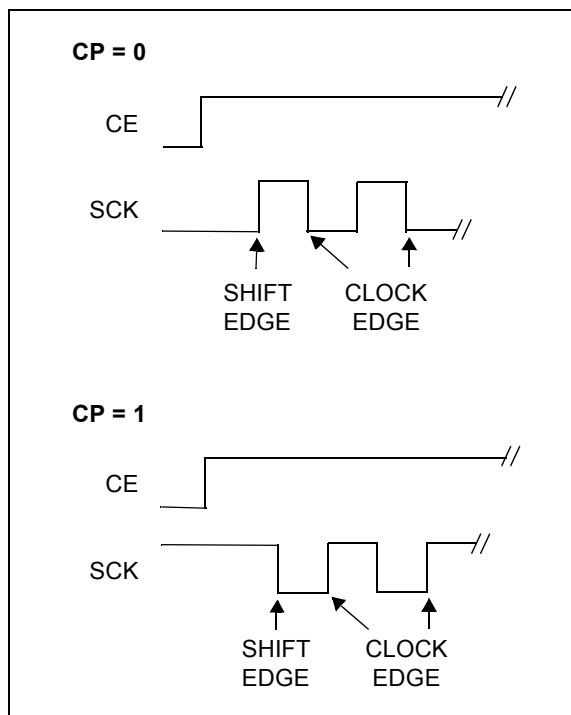
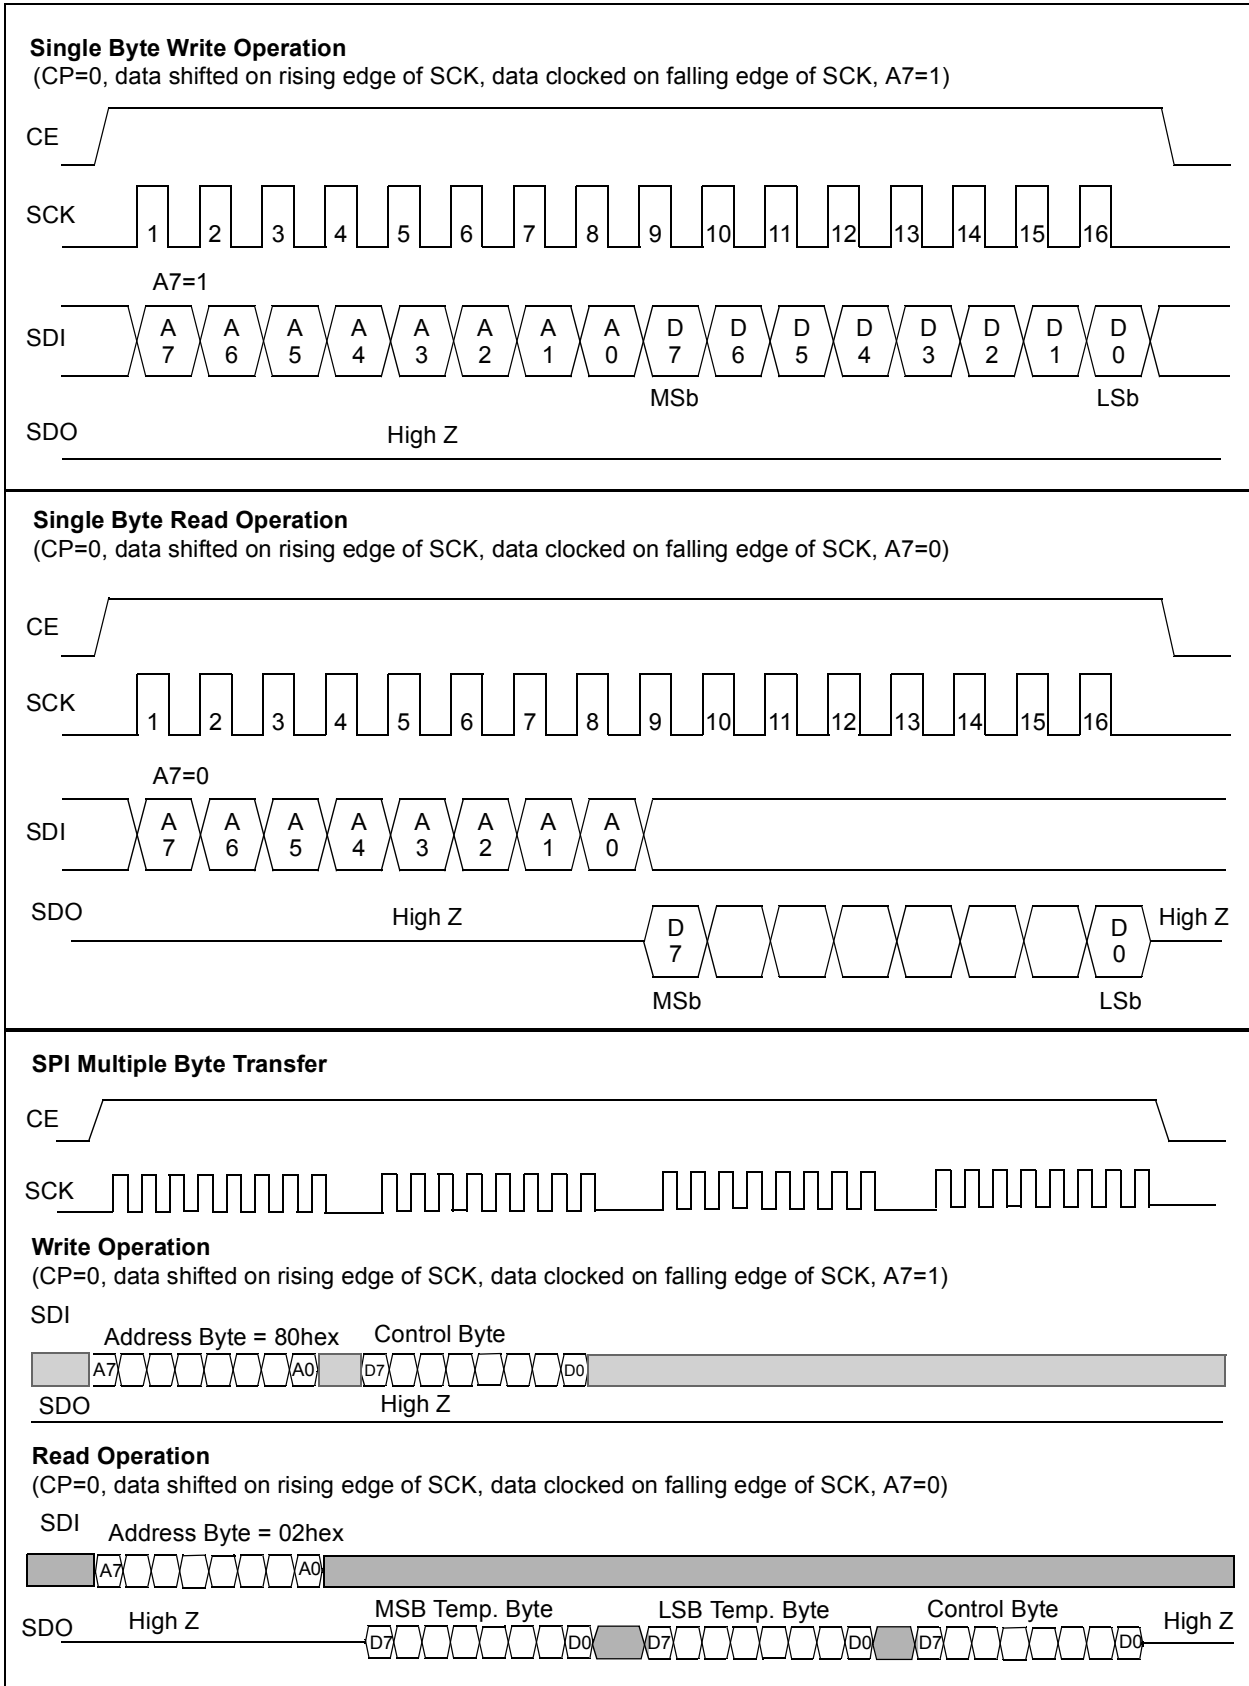

FIGURE 3-2: Serial Clock Polarity (CP) Operation.
FIGURE 3-3: Serial Interface Timing Diagrams (CP=0).
Note: The timing diagram is drawn with CP = 0. The TC72 also functions with CP = 1; however, the edges of SCK are reversed as defined in Table 3-3 and Figure 3-2.
The TC72 has the capability to function with either an active-high or low SCK input. The SCK inactive state is detected when the CE signal goes high, while the polarity of the clock input (CP) determines whether the data is clocked and shifted on either the rising or falling edge of the system clock, as shown in Figure 3-2. Table 3-3 gives the appropriate clock edge used to transfer data into and out of the registers. Each data bit is transferred at each clock pulse, and the data bits are clocked in groups of eight bits, as shown in Figure 3-3.
Data can be transferred either in a single byte or a multi-byte packet, as shown in Figure 3-3. In the 3-byte packet, the data sequence consists of the MSb temperature data, LSb temperature data, followed by the Control register data. The multi-byte read feature is initiated by writing the highest address of the desired packet to registers. The TC72 will automatically send the register addressed and all of the lower address registers, as long as the Chip Enable pin is held active.
The temperature and control register data is outputted from the TC72 using the CE, SCK and SDO lines. Figure 3-3 shows a timing diagram of the read operation. Communication is initiated by the chip enable (CE) going high. The SDO line remains at the voltage level of the LSb bit that is outputted and goes to the tri-state level when the CE line goes to a logic low level.
Data is clocked into the Control register in order to enable the TC72's power saving shutdown mode. The write operation is shown in Figure 3-3 and is accomplished using the CE, SCK and SDI line.